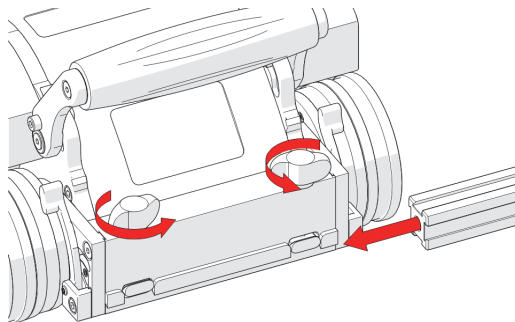

Figure 2-6 Frame bar installation
1. Rotate the two black wing knobs to loosen the dovetail jaws (see Figure 2-6 on page 51).